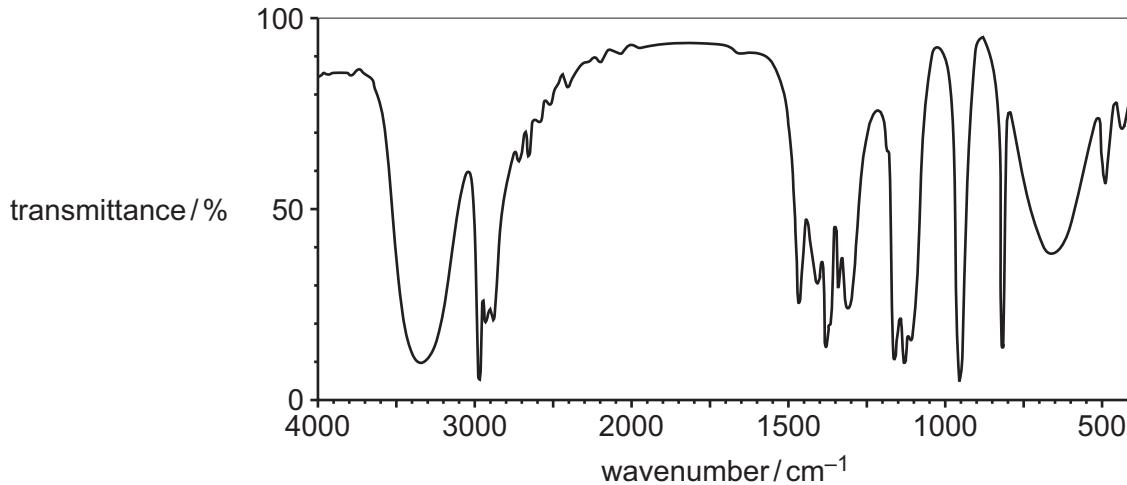

Fig. 2.3
- (e) Fig. 2.3 shows an infrared spectrum of the ROH extracted in (d).
Use Table 2.2 to explain how the infrared spectrum in Fig. 2.3 shows that the ROH extracted does **not** contain any ester X.